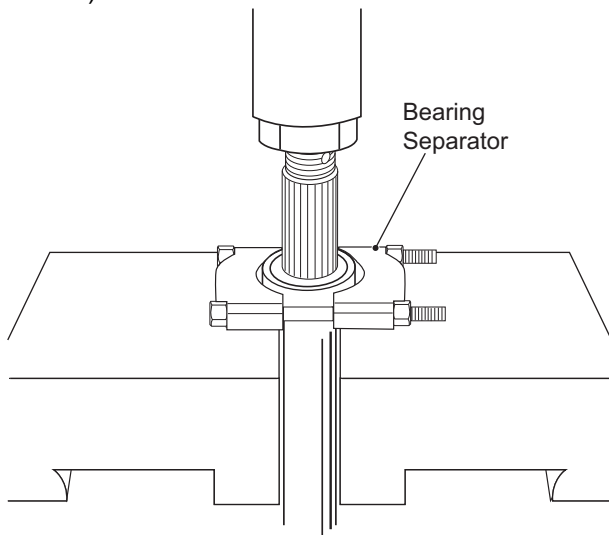

Figure 4 Pressing Bearing from Axle Shaft
4. Remove the bearing by supporting the inner race of the bearing on an arbor press bed and apply pressure to the threaded end of the axle shaft (Ref. Figure 4).